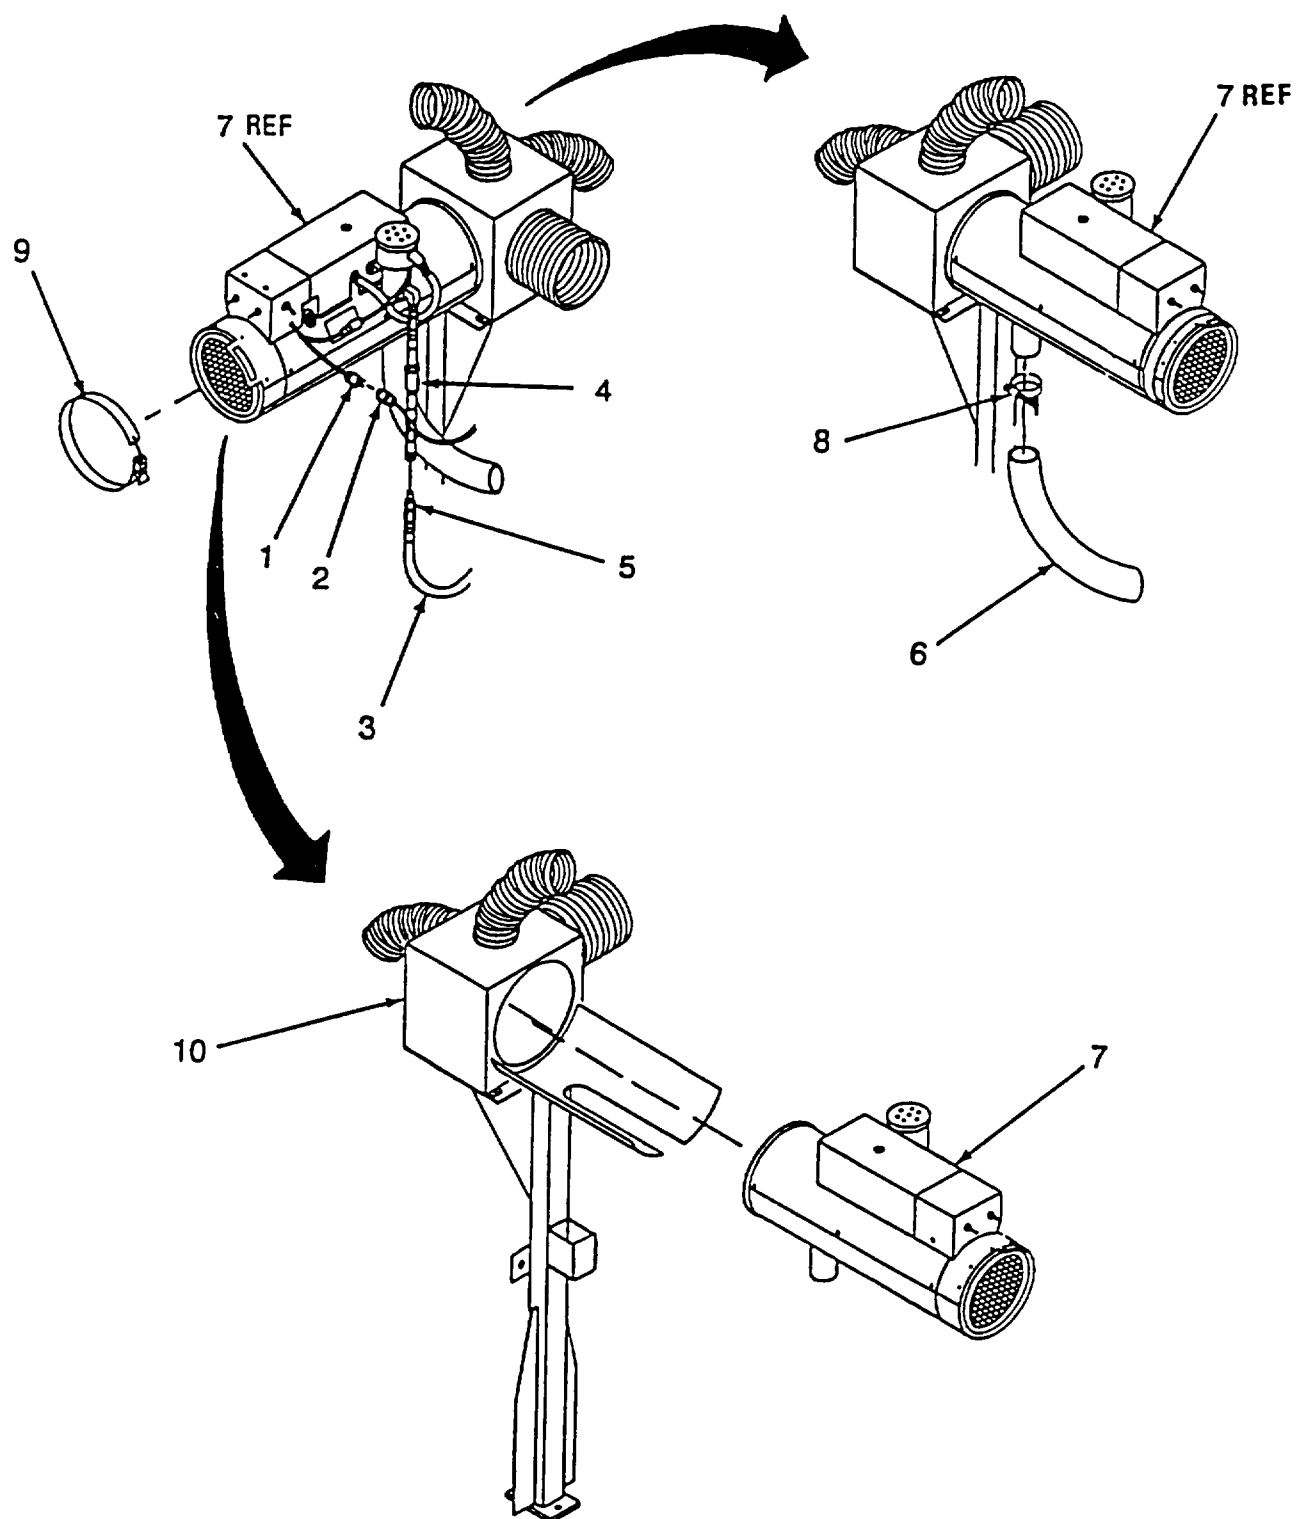

Figure 4-43. Heater Assembly
a. Removal. (Refer to Figure 4-43).
- (1) Disconnect heater male plug (1), from female connector (2).
- (2) Disconnect fuel line (3) from heater fuel line (4) using quick disconnect (5).
- (3) To remove exhaust hose (6) on bottom of heater assembly (7), loosen T-clamp (8) and slide down on exhaust hose (6). Remove exhaust hose (6).
- (4) Remove clamp (9) holding heater assembly (7) to heater plenum (10). Remove heater assembly (7) from heater plenum (10).